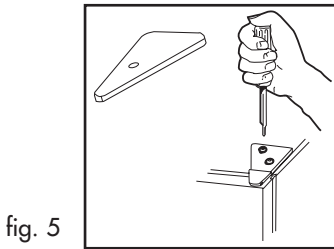

fig. 5
## Reversing the Door (fig. 5 & 6)
2. Dismantle the hinge box cover on the top of the freezer door with a Phillips screwdriver and remove the 2 screws from the hinge. Take out the hinge by pulling up vertically. Put these aside. (see fig. 5)